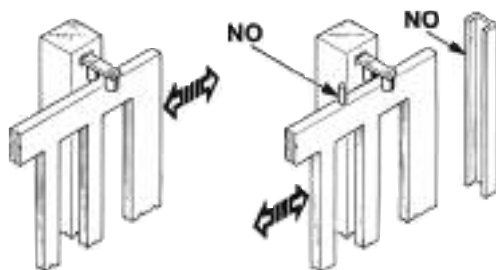

Fig. 3
- Gate columns shall have anti-derailment guides on their top (Fig. 3), to avoid the unintentional gate release.
N.B.: Eliminate those mechanical stops of the kind described by figure 3.